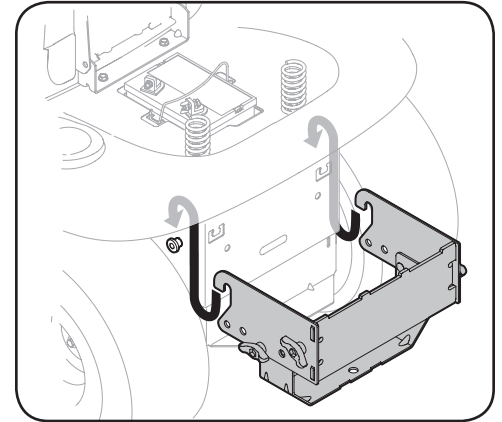

Figure 4-5
1. Place the hooked ends of the mounting assembly over the shoulder bolts on the back of the tractor frame, as shown in Figure 4-5, and line up the hitch support bracket center hole with the hole on the tractor's hitch.